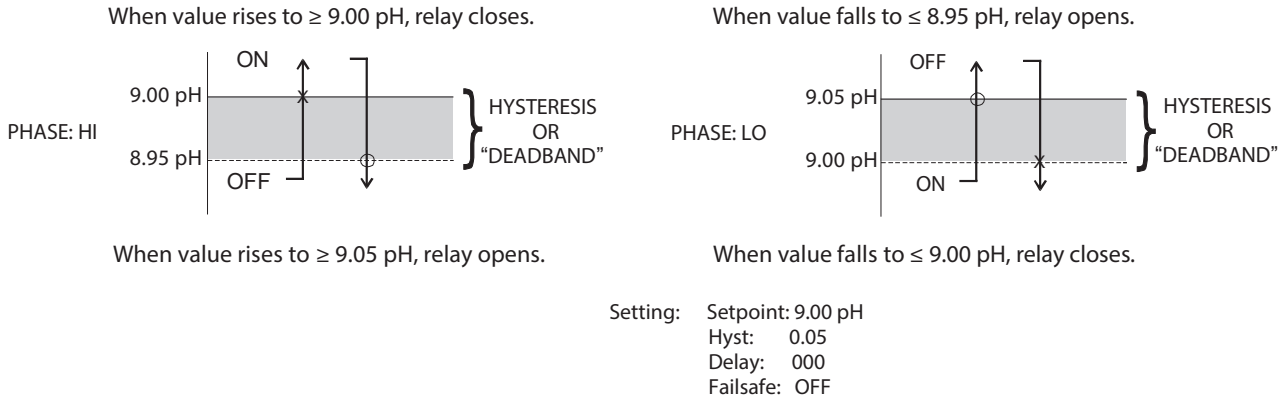

Figure 17: Control Relay, hysteresis and phase options
The **CON** setting enables normal setpoint operation for Relay B/C. Relay B/C then operates identically to Relay A, with settings for setpoint, hysteresis, delay and phasing appearing in the *CONFIG* menu automatically. See Figure 17 on page 33 for details.
*A Phasing	This function establishes the direction of the relay trip. When phase is HI , the relay operates in a direct mode. Therefore, the relay energizes and the LCD indicator illuminates when the pH value exceeds the setpoint. When the phase is LO , the relay energizes and the LCD indicator illuminates when the pH level drops below the setpoint. The failsafe setting does have an impact on this logic. The description here assumes the failsafe setting is OFF. Press ENTER to initiate user entry mode and the entire value flashes. Use the UP arrow key to modify the desired value. Selections include HI for direct operation or LO for reverse operation. Press ENTER to store the new value. See <a href="#">Figure 17 on page 33</a> for a visual description of a typical control relay application.